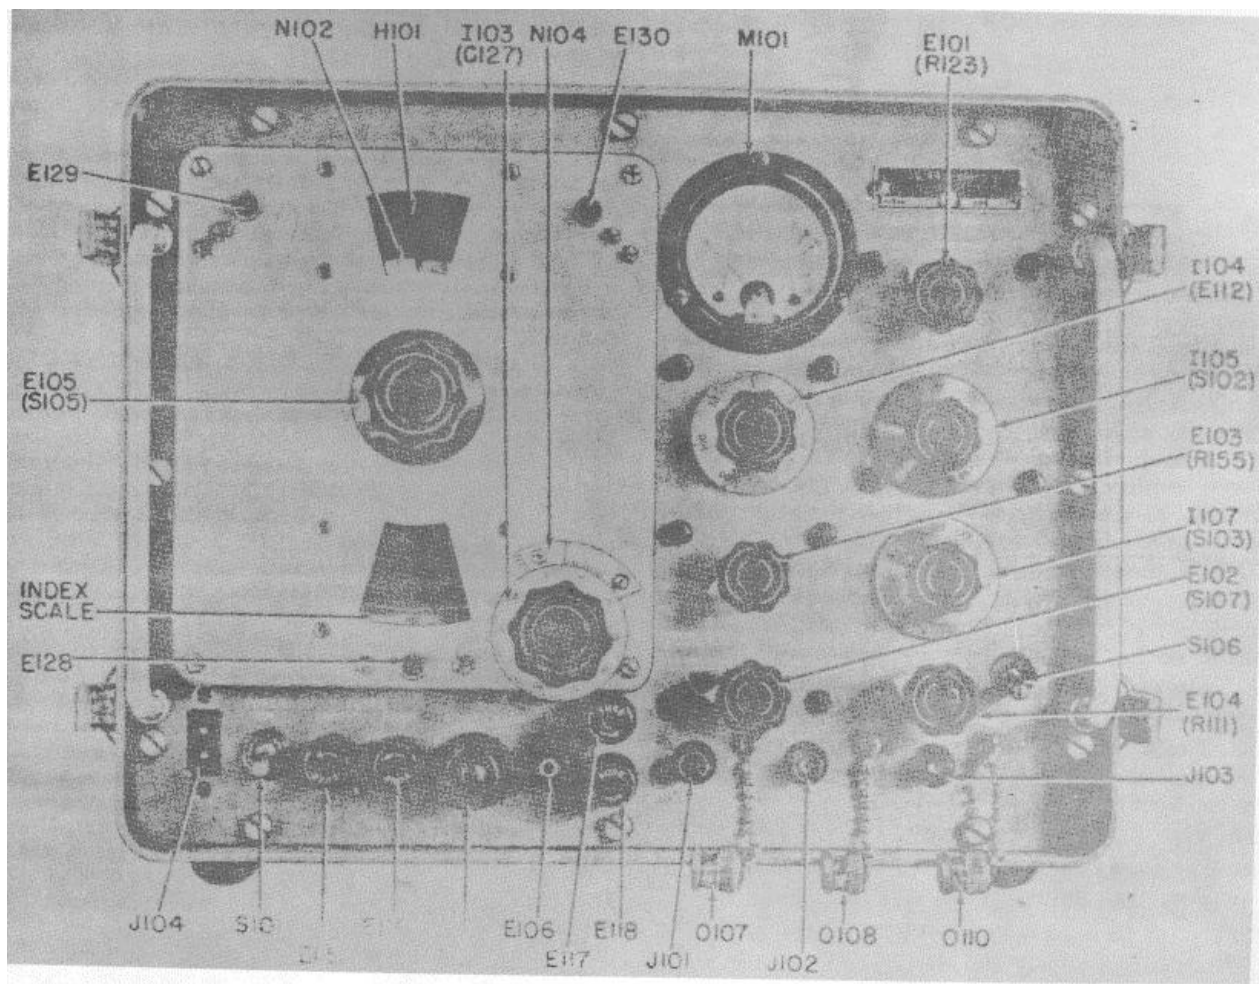

Figure 4-1. RF Signal Generator SG-448/URM-25, Front Panel Diagram
c. The following preliminary settings and checks are required prior to placing the equipment in operation (See figure 4-1).
- (1) Turn POWER switch (S-101) to OFF position
- (2) Turn CARRIER CONTROL E-101 to the fully counterclockwise position.
- (3) Plug power cable W-101 into power receptacle J-104
- (4) Insert other end of power cable W-101 into 115 volt AC source
b. The following preliminary checks and adjustments may be required in zero setting the meter (M-101). All symbols designations in this paragraph refer to Section 4, figure 4-1.
(1) Turn CARRIER CONTROL E-101 and % MODULATION control E-104 to the fully counterclockwise positions.
(2) Turn the signal generator on by placing POWER switch S-101 to the ON position. (Allow a 15 minute warm-up period).
(3) Set METER READS dial I-105 first in the RF position and then in % MOD and BAL positions. Meter M-101 should read zero. in all positions.
(4) If the meter does not read zero, follow the meter calibration procedure outlined in Section 6, par. 10.
All reference to symbol designations in this section apply to the front panel diagram Figure 4-1 unless otherwise specified. Primary reference is made to the symbol designation of the front panel knob (i.e. E-101) applicable to the specific circuit element (i.e. R-123). The association between the knob and circuit part is shown on Figure 4-1 by indicating the corresponding circuit element designation following the knob symbol (i.e. E-101 (R-123)).
TABLE 4-1. OPERATIONAL SUMMARY OF FRONT PANEL CONTROLS (See figure 4-1)